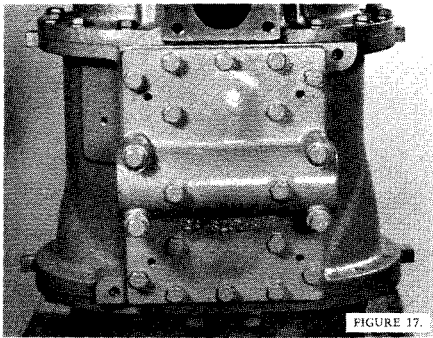

FIGURE 17.
- Install oil gallery plate and gasket, Figure 17. Plug openings with clean rags to prevent entrance of dirt. Also protect inlet and discharge openings of unit.